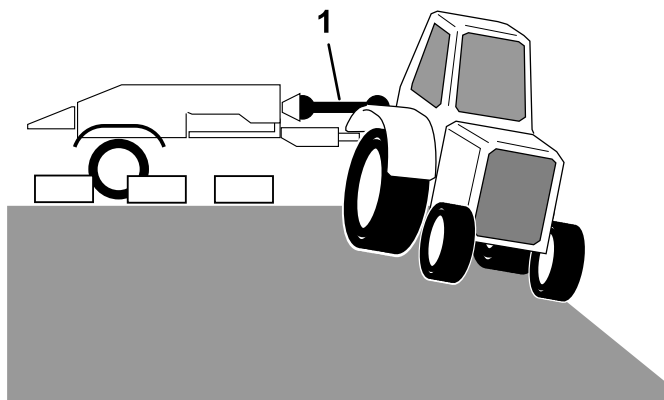

Figure 20
2. Position the tractor/mower combination with the tractor turning sharply on a steep downward slope and the mower on level ground (Figure 20).